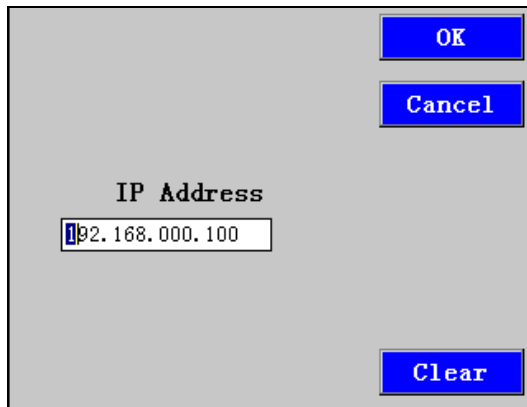

Fig. 21 IP Address Set Up
- 2 Move to $\langle \lambda \rangle$ parameter and press [Edit]. You see the screen in Figure 21.